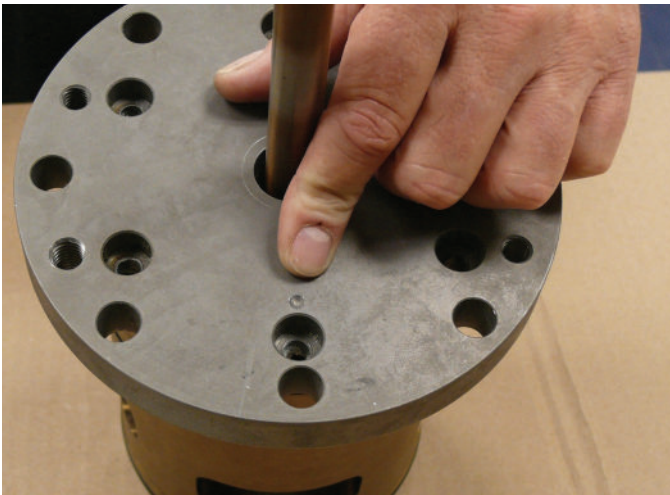

Figure 9-31 Alignment of Cylinder Head on Valve Cylinder
12. Install cylinder head on valve cylinder. Align cylinder head with valve cylinder by orienting the alignment mark to the bottom of the cylinder. (Figure 9-31)